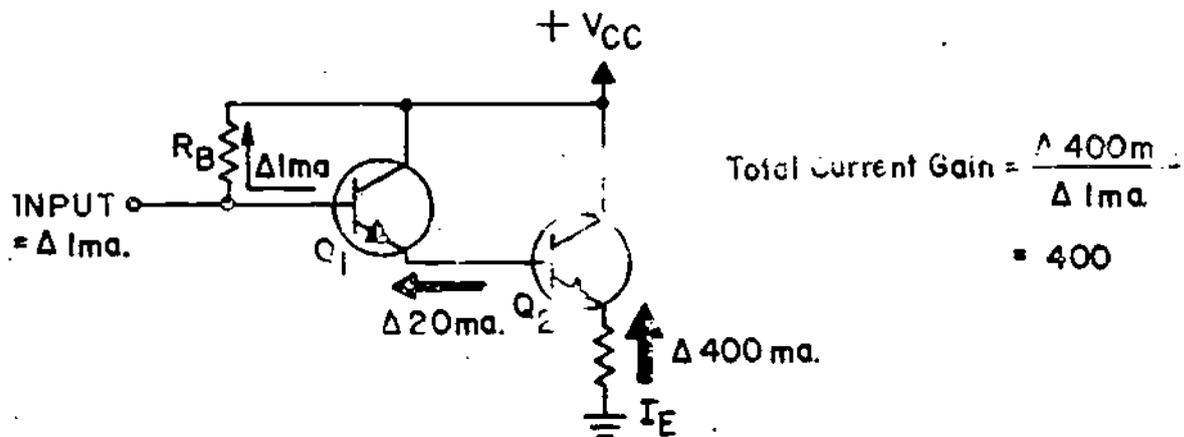

FIGURE 23
31. The schematic in Figure 23 is that of a Darlington amplifier. This type of amplifier has several distinct advantages. The main advantages of the Darlington amplifier circuit are the high input impedance and high current gain. This circuit is found in many regulated power supplies.
Given the circuit shown in Figure 23, what is the output current change of Q2 assuming an input current change of 1 milliampere and transistor gains of 10.